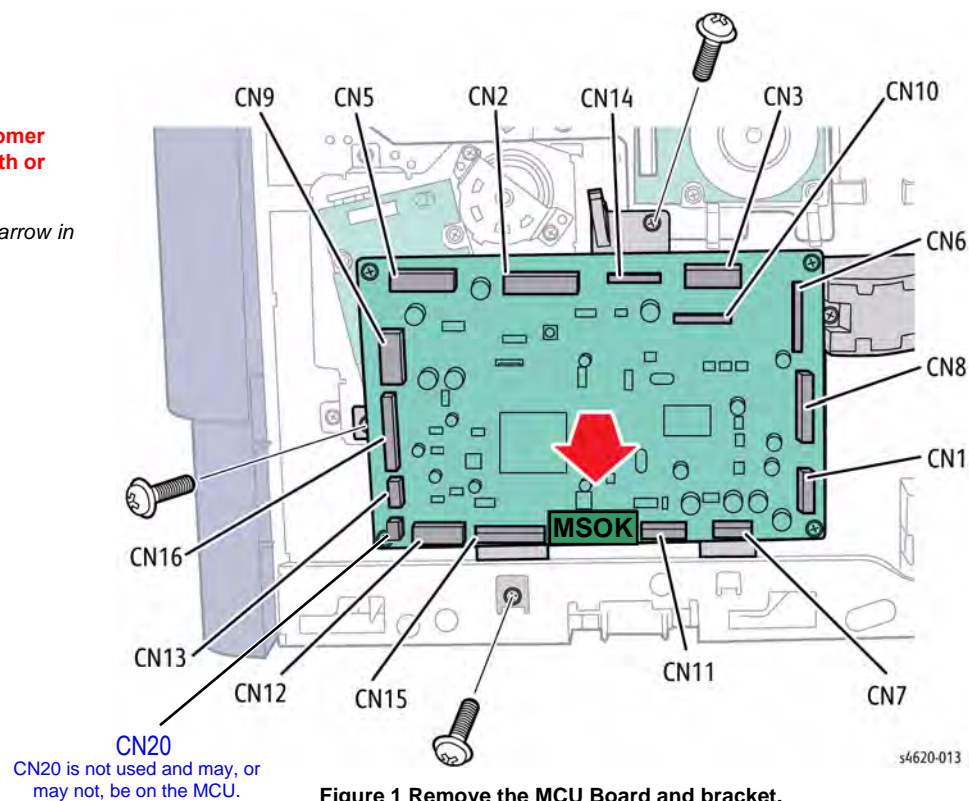

Figure 1 Remove the MCU Board and bracket.
8. Lift the assembly up to remove the MCU Board and bracket, Figure 1.
After removal of the MCU Board, move the MSOK board, located in CN4 at Red arrow in Figure 1, to the new board.